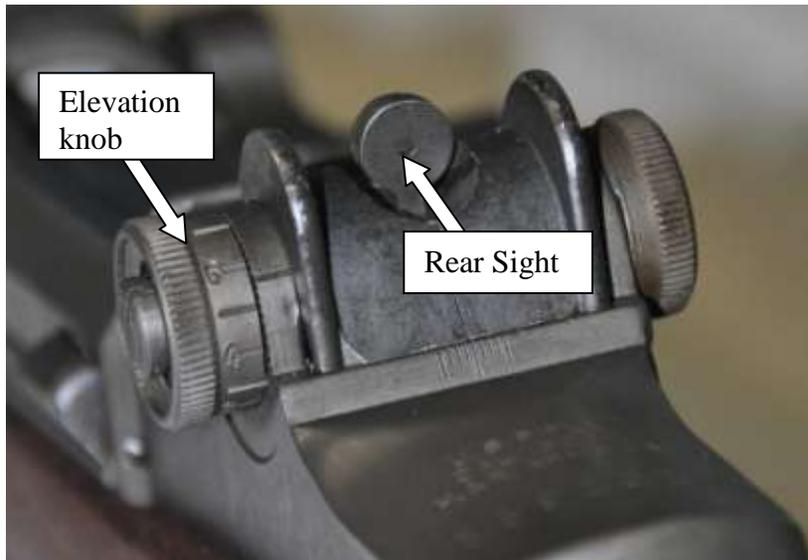
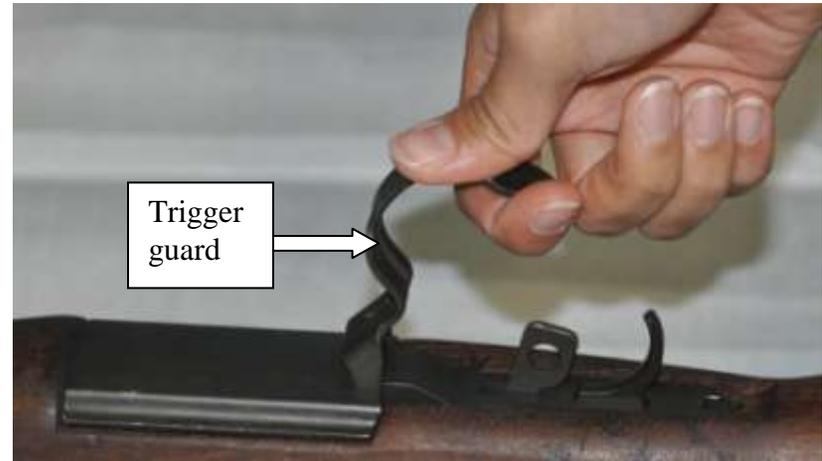

Figure 9 -Elevation knob
Figure 10 -Trigger guard being pulled rearward and upward
- 2) Rotate the elevation knob so the rear sight is at its lowest position (fig 9). Invert the rifle and place it on a flat surface so that the trigger assembly is facing upward. While securing the rifle with one hand, pull rearward and upward on the trigger guard (fig 10 and 11). Lift straight up to remove the trigger housing assembly.